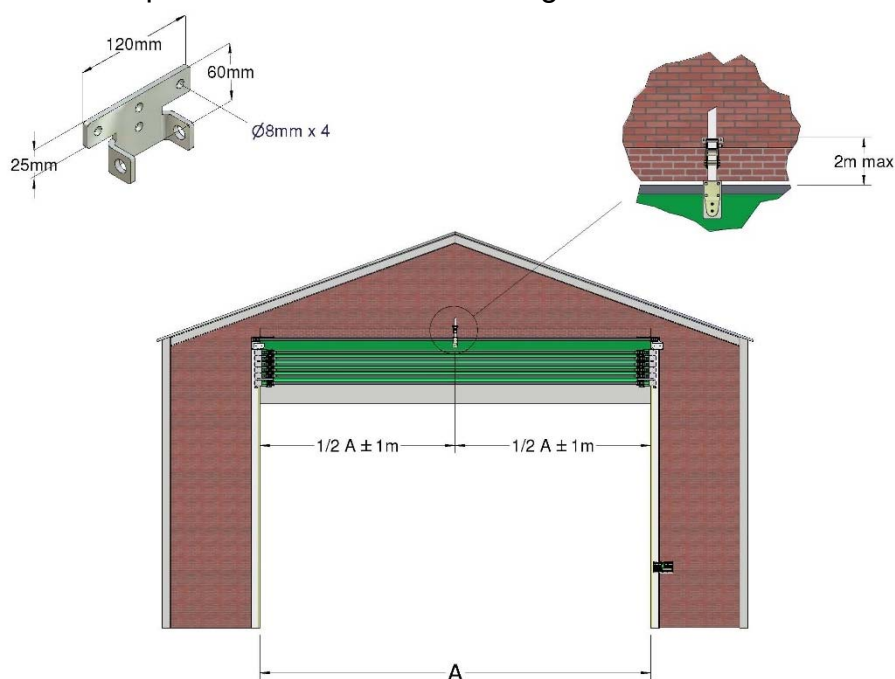

Figure 19a: Door 10m to 14.9m
6.1 Decide on the position of the top support, to minimise screen sag we recommend it is positioned as indicated in Figure 19a or 19b